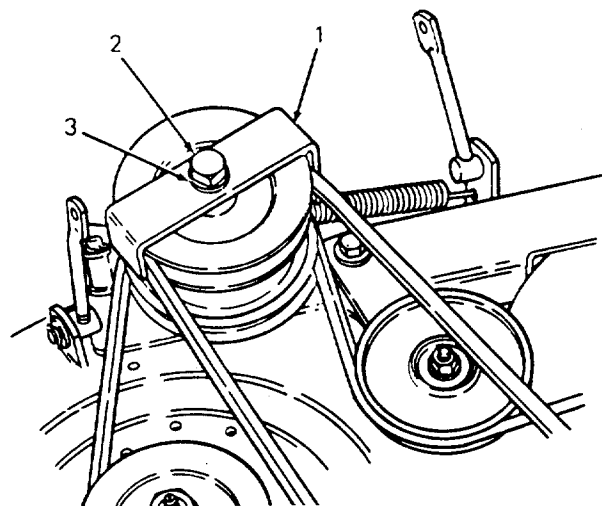

Figure 58
1. Refer to Figure 58 and carefully note the relative position of the double drive pulley belt guard to the double drive pulley.